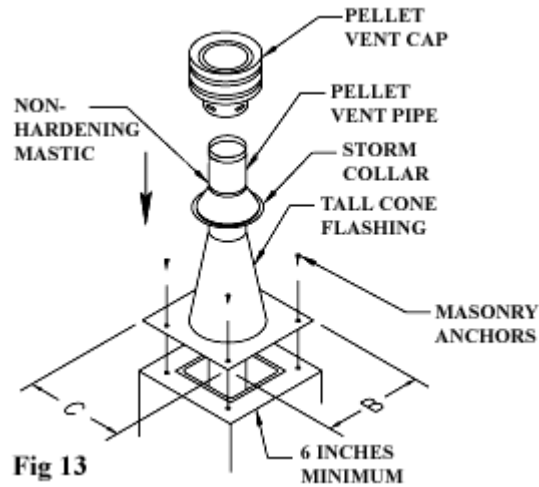

Fig 13
11. For the termination of the pellet vent, you will use a Tall Cone Flashing, and a Storm Collar. This will require 14 inches of pipe above the top of the masonry chimney. Pull the pipe up through the flashing to the desired height. Mark where the Storm Collar will go. Slip the Storm Collar down over the pipe, and affix it to the pipe with a 1/4"-long stainless steel sheet metal screw. (Figures 13 & 14). The Storm Collar will then support the entire vent system. Install the Cap. Seal the joint at the Storm Collar, and any other joints or seams which may appear suspect. Figure 15 show a Tall Cone Flashing modified to fit a chimney where the tile liner protrudes above the masonry, as another alternate termination technique. This completes the masonry installation.